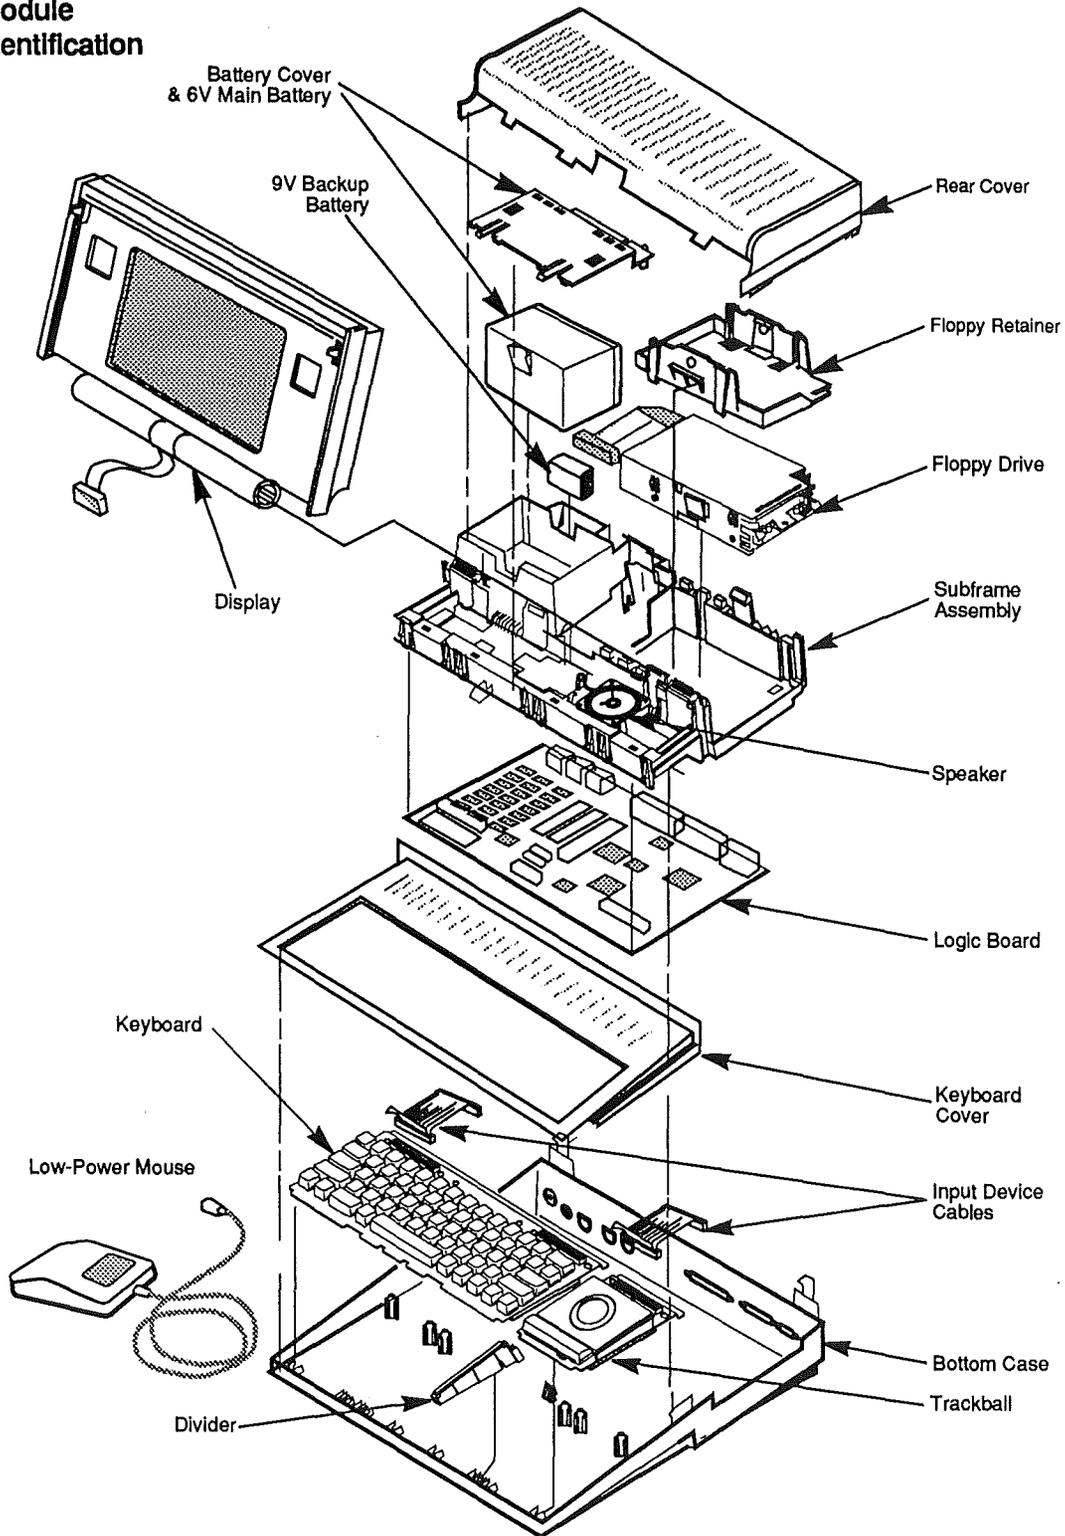

FIGURE 3
- IPL.7 Power Adapter (Figure 3)